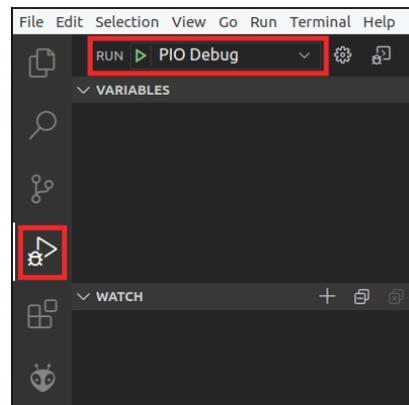

**Figure 45. View assembly file AL\_Operations.S**
2. Open the assembly program, *AL\_Operations.S*, by clicking on the Explorer icon in the left menu ribbon , expanding *src* under *AL\_OPERATIONS* in the left sidebar and clicking on *AL\_Operations.S* (see Figure 45).